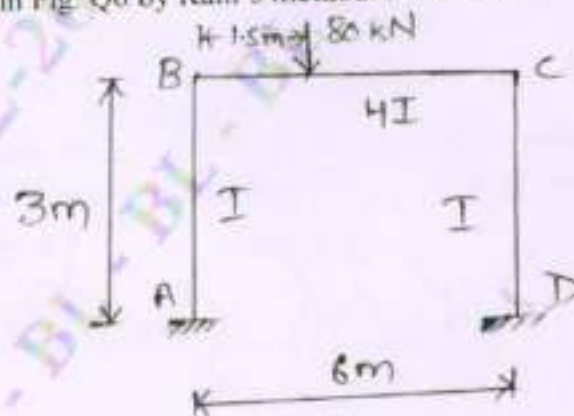

Fig. Q6
- 6 Analyze the frame shown in Fig. Q6 by Kani's method. Draw BMD.